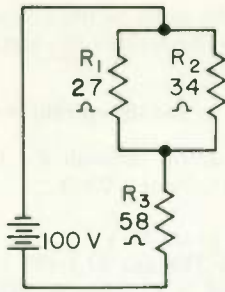

Fig. 9
5. (a) 1.37 (b) 0.763 (c) 0.606 . . . The first thing to do when a circuit is involved is to draw the circuit. Then add to the drawing all pertinent data that are given. This is shown in Fig. 9. There are various ways to do this problem; only one way will be shown. Find the equivalent resistance of R_1 and R_2 :